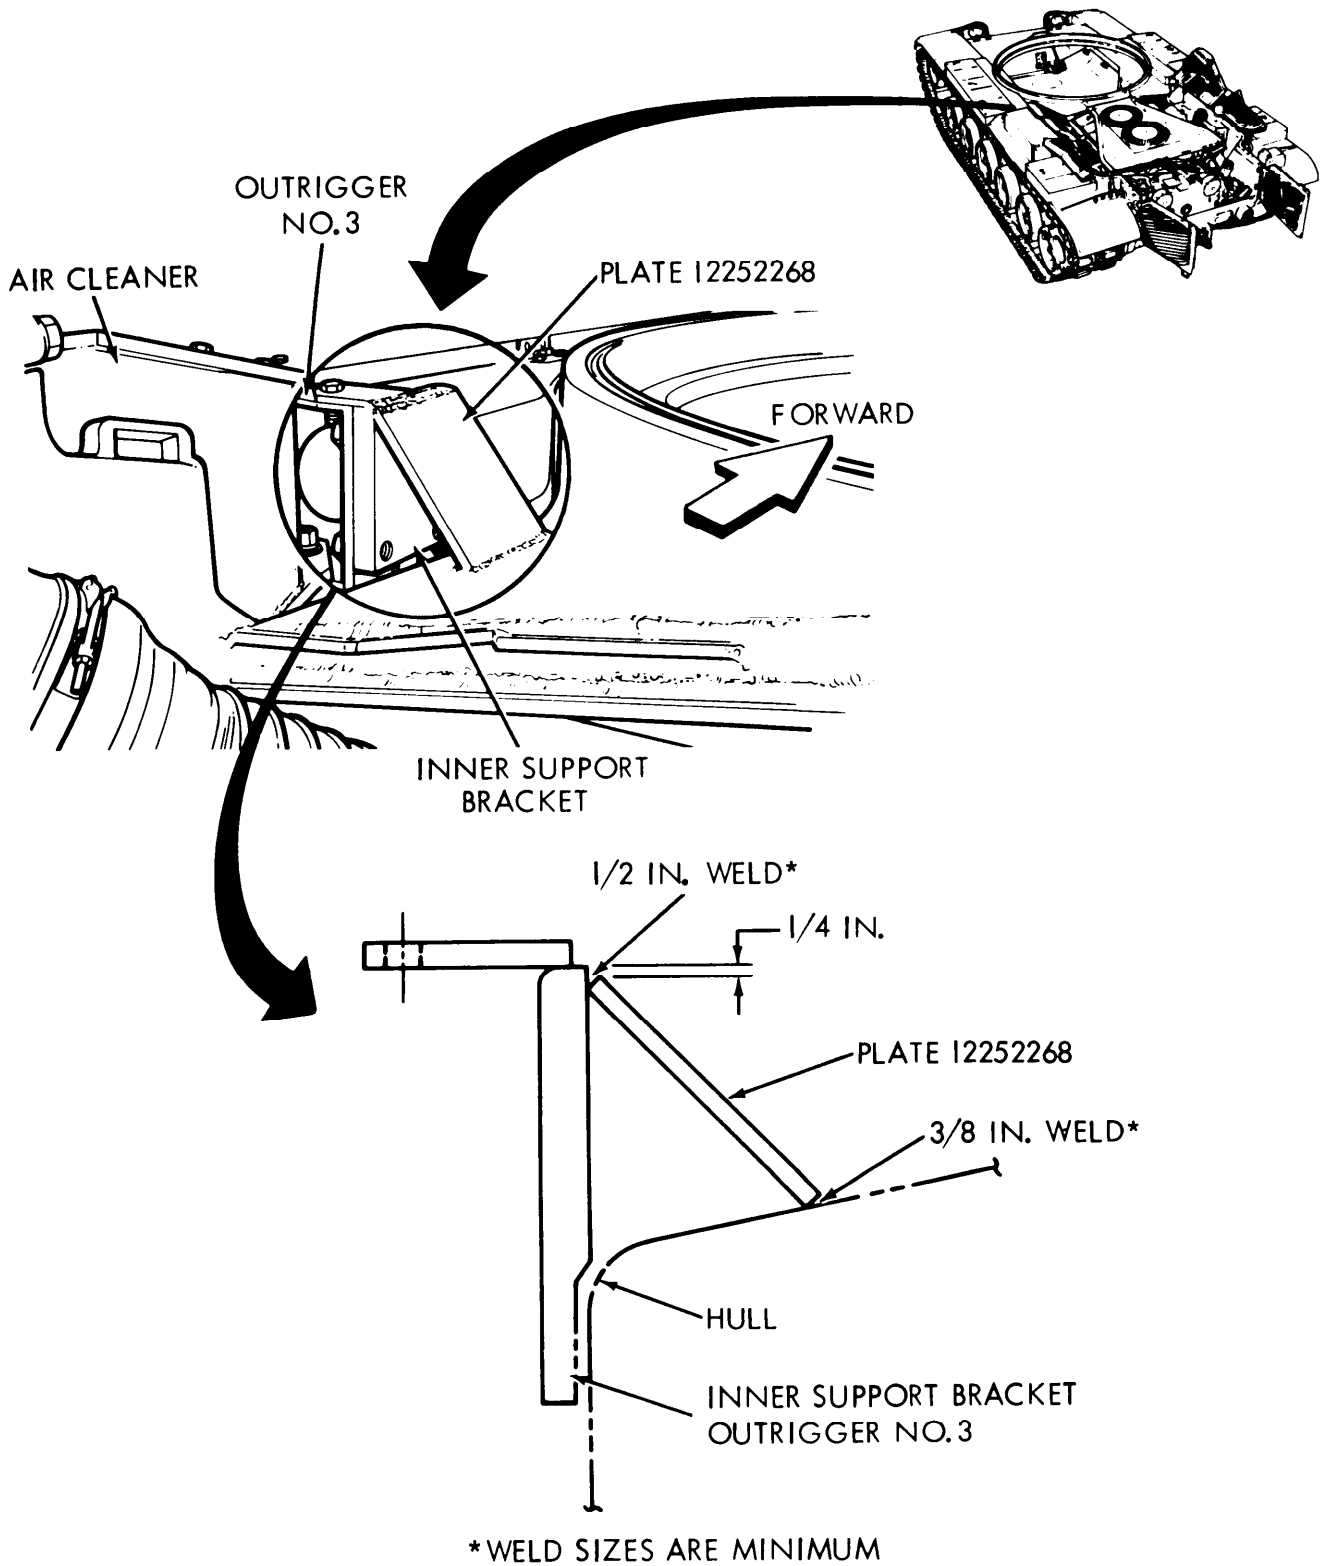

Figure 4-19. Left outrigger support plate installation.
- All welds must be performed to MIL-W-46086 (MR), Method 1. Use austentic electrodes only (308 MOT 16 stainless or equivalent). Refer also to TM 9-237 Welding Theory and Application.
- (a) Obtain reinforcement plate 12252268 from kit and weld plate to number 3 outrigger inner support bracket (on left side of tank) and hull as shown in Figure 4-19.